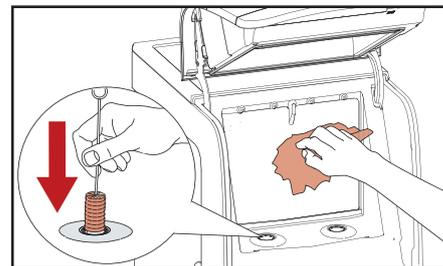

Fig. 5.9 - Clean cooling compartment
- Clean the doser opening with a brush and the interior of the cooling compartment with a clean, damp cloth (fig. 5.9). Dry with a clean paper cloth.